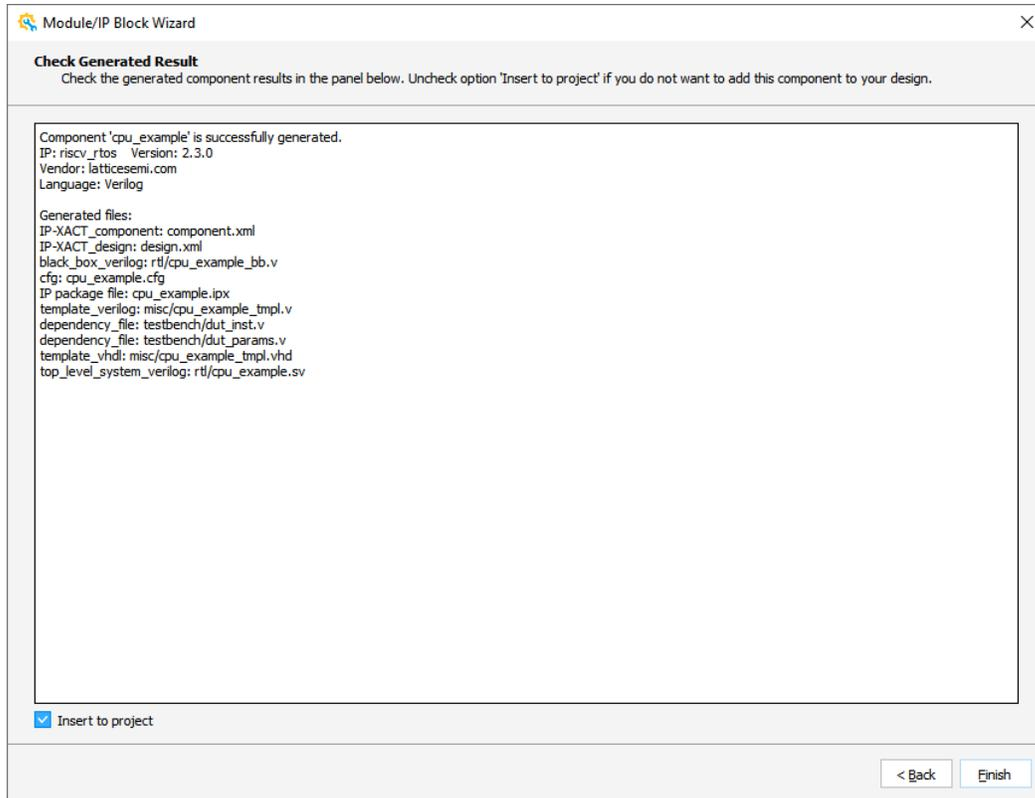

Figure 3.3. Verifying Results
4. Verify the information, as shown in Figure 3.3. Click **Finish**.